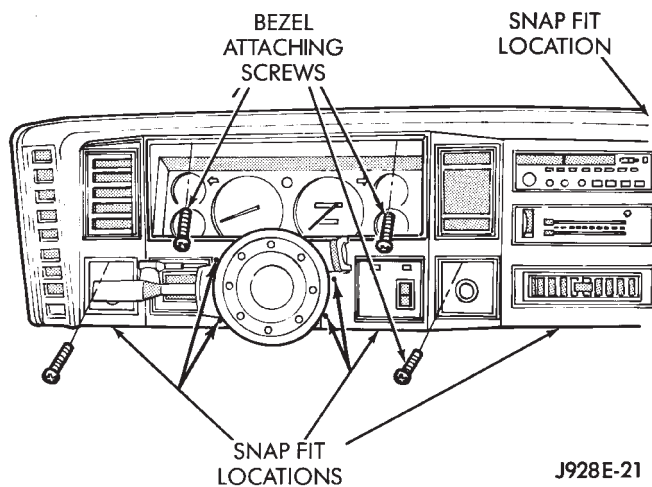

Fig. 4 Instrument Bezel Remove/Install - XJ
- (1) Disconnect battery negative cable.
- (2) Remove upper and lower steering column shrouds and steering column to instrument panel bezel gap hider. If equipped with tilt steering, apply tape to tilt mechanism on top of steering column to protect instrument panel bezel from damage during removal.
- (3) Remove 4 instrument panel bezel attaching screws (Fig. 4) and remove the bezel.